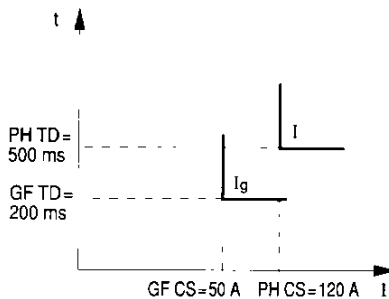

Figure 71: Ground fault time delay shorter than phase time delay
2. ground fault time delay shorter than phase time delay (figure 71)